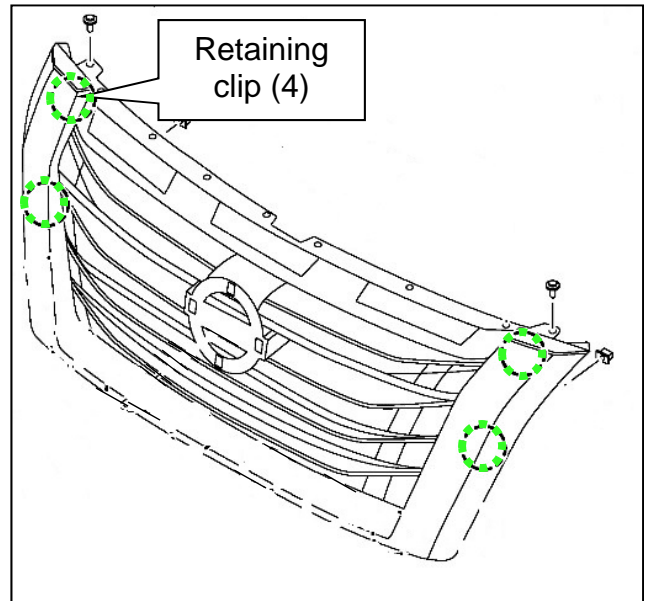

Figure 27
19. Reposition the top right and left sides of the front grille (Figure 27).